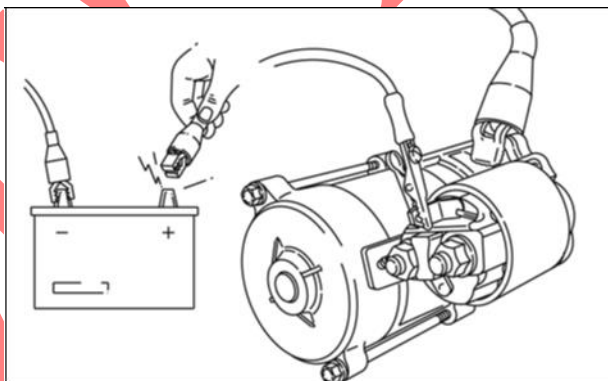

Figure 48
1. Engage flats on plunger with fork in drive lever and assemble solenoid to starter (Figure 48). Torque nuts to values listed in Section 14 - Engine Specifications.